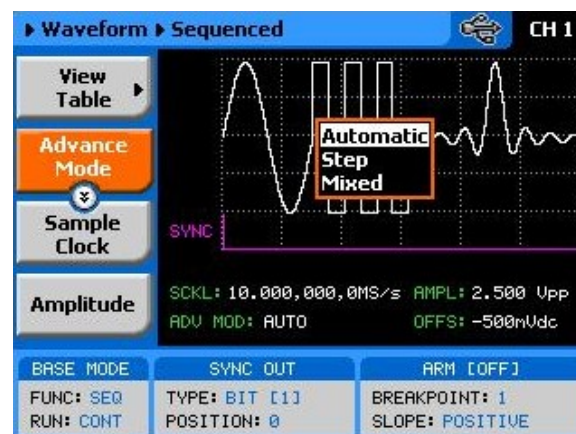

Figure 3-51, Sequence Advance Options
1. Refer to Figure 3-51 and select the Advance Mode with the appropriate soft key. The advance mode options, as shown in Figure 3-51 will display. Use the dial or arrow keys to scroll down to the required mode and press Enter to lock in the selected mode.
The operating mode of the instrument, as selected from the Run Modes menu, affects the way that the PM8572 lets you access the sequence advance mode parameter. If you are in continuous mode, as shown in Figure 3-51, you can select one of: AUTO, STEP, or MIXED. If you already selected the triggered run mode, you'll be able to select from AUTO, or SINGLE only as advance modes.